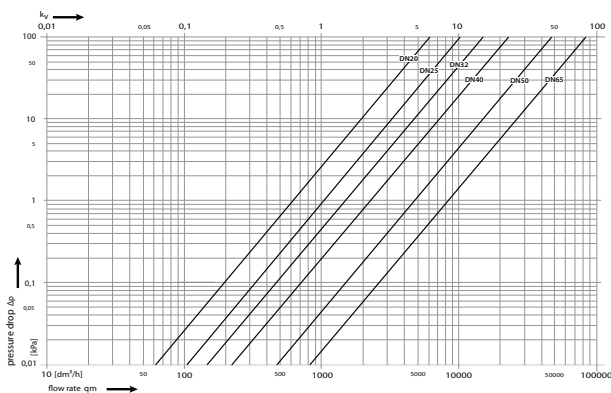

Fig. 5. Flow rate diagram of the balancing valves
3. Using flow rate diagram (Fig. 5), determine which differential pressure should be achieved, for PPU to reach the designed flow rate.